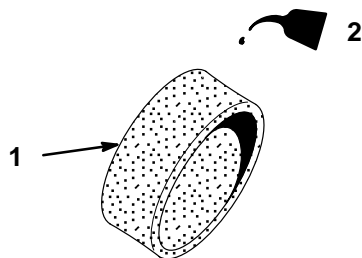

Figure 25
3. Saturate the element with clean engine oil (Fig. 25), squeeze out the excess oil, the wrap it in a clean rag and squeeze it as dry as possible. Be careful not to tear the element.